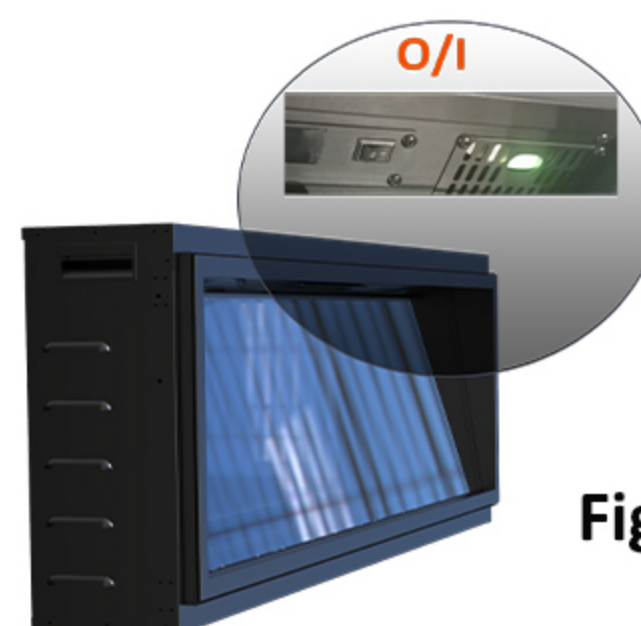

Figure 1
**!** NOTE: To disconnect from mains - set the mains switch to 'O'. The mains (power) switch is located at the top right hand side of the appliance above the manual controls - see 'O/I' Figure 1. Mains switch shall remain readily operable.